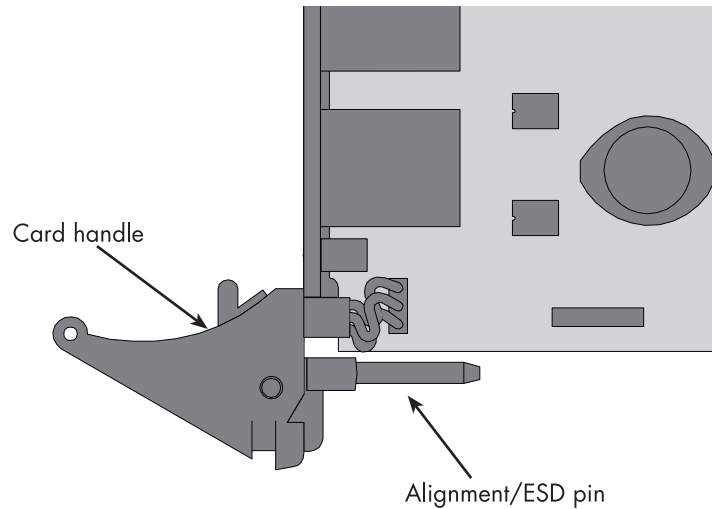

Figure 4. Alignment/ESD pin and card handle
3. Gently press the blade into the chassis until the alignment/ESD pin (see figure 4) engages the chassis. When the blade is fully seated, the red buttons in the handles click up automatically, thus locking the handle and activating the switch (closed position). The click of the button gives a visual and audible confirmation that the board is fully seated.